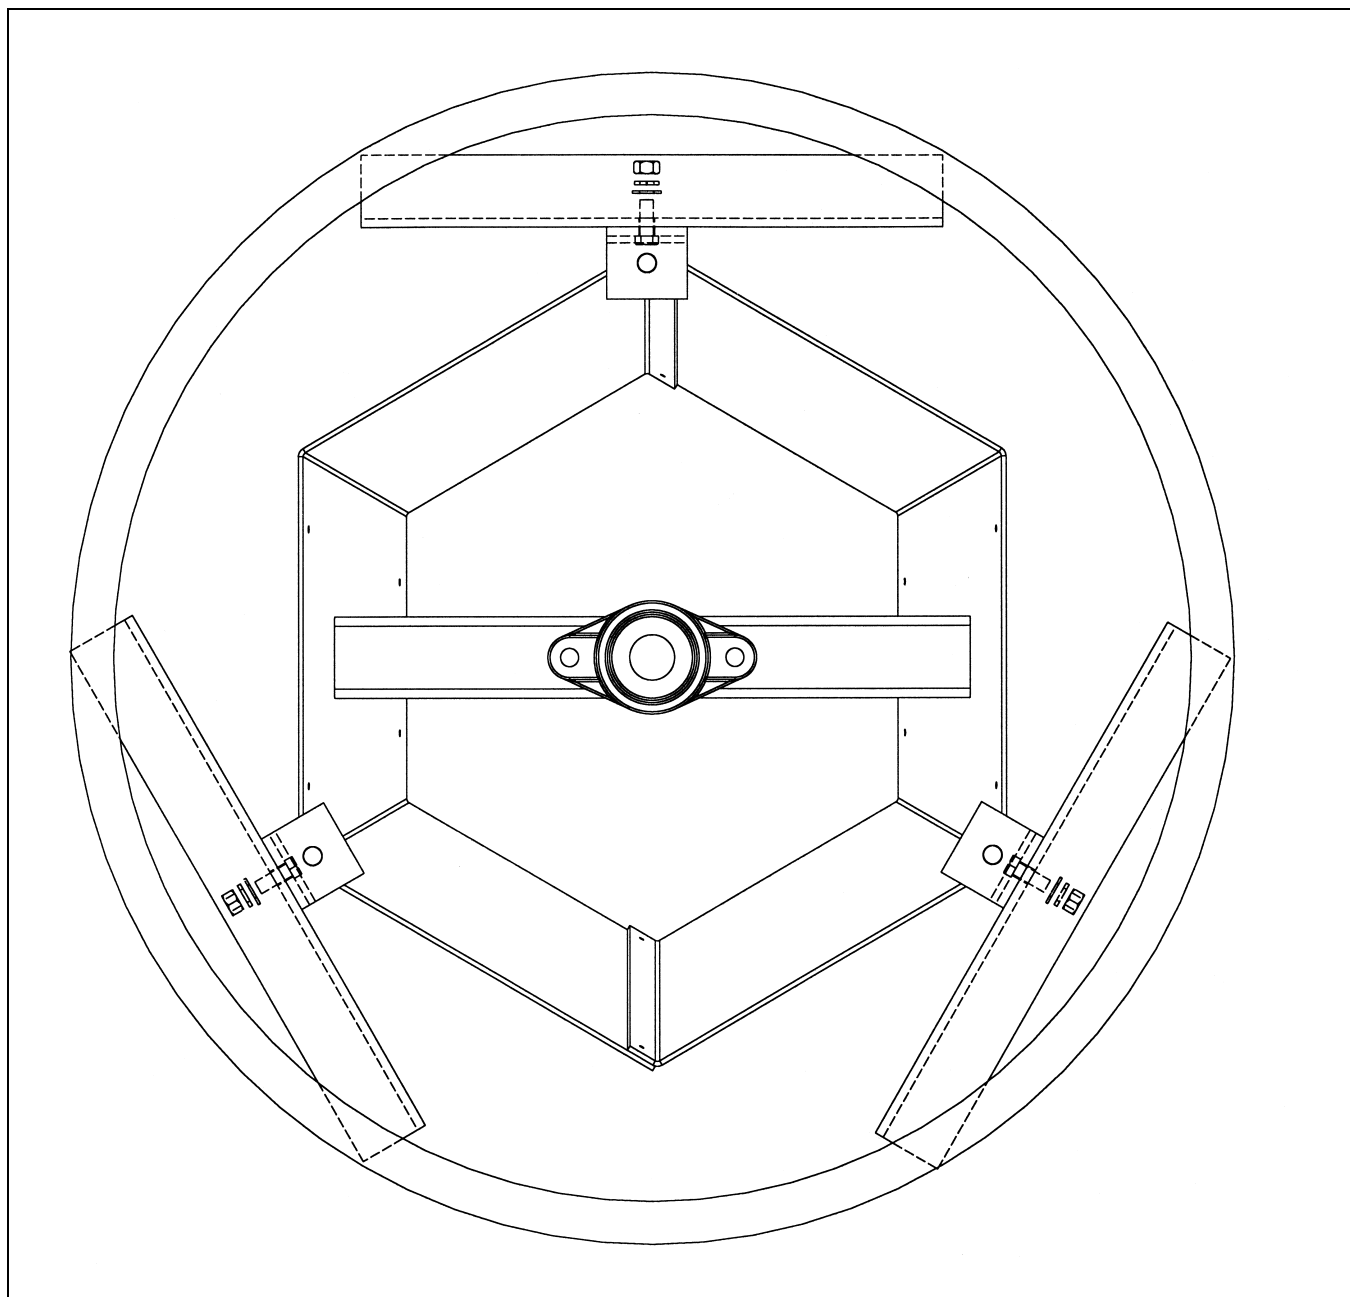

Figure 2C Model 10000 Installation
8. Build a frame into the top and center of the bin to support the spreader. The outside face of the three angle hangers on the hopper form a 21" diameter circle so the frame should be constructed in a triangle to allow the angle hangers to be bolted directly to the frame with three 3/8" x 1" bolts, flat washers, lock washers and nuts. (See Figure 2C on Page 12.)